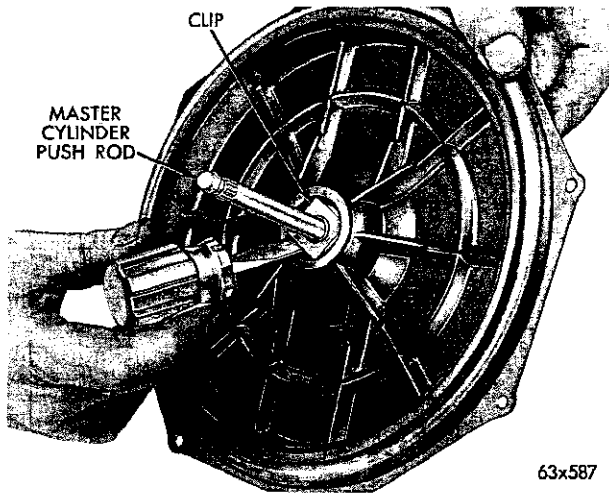
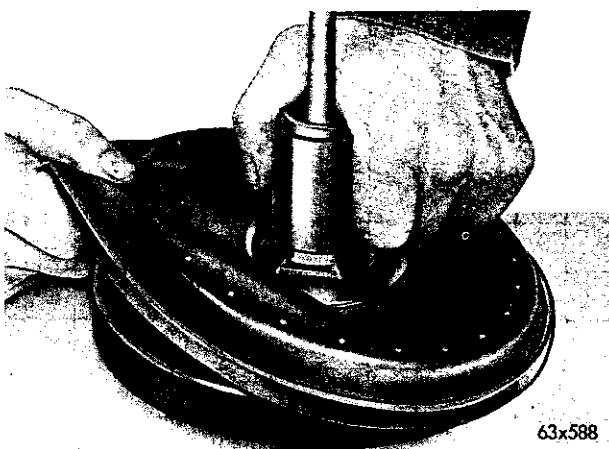

Fig. 17—Removing Push Rod Retainer
Fig. 18—Removing Rubber Diaphragm
(5) Holding the two shells together, remove the booster from the vise and carefully separate the two shells.
(6) Remove the return spring.
(7) Remove the master cylinder push rod retainer (Fig. 17).
(8) Remove the diaphragm and valve assembly from the rear shell.
(9) Place the diaphragm and valve housing face down and stretch the rubber diaphragm out and over the hub of the valve body (Fig. 18).
(10) Holding the valve housing in a vertical posi-